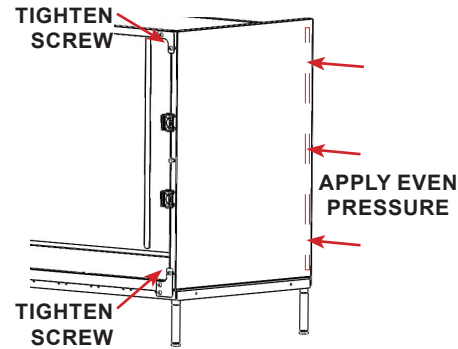

FIGURE 2.58 - End Panel Installation
STEP 7: Tighten the top and bottom screws along the side of the cage frame to hold the end panel against the cage frame. See FIGURE 2.58
STEP 8: Apply even firm pressure for 60 seconds (minimum) to the end panel to adhere the end panel to the back of the cage. See FIGURE 2.58